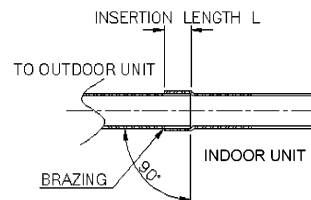

FIG 4
- Piping should be brazed onto the indoor unit. Check the size of the refrigerant piping with TABLE 2, and FIG.4
2.See FIG.4 in reference to L